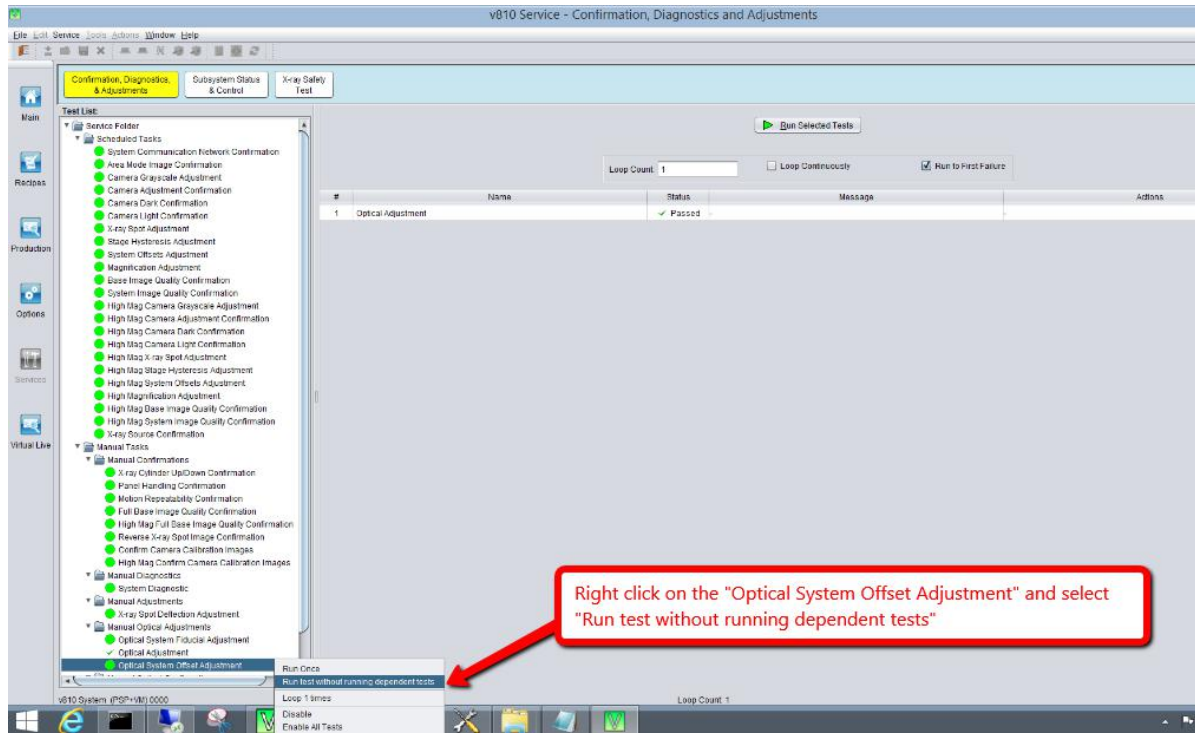

Figure 28 Optical System Offset Adjustment
20. At **Confirmation, Diagnostics and Adjustment (CD&A)**, under the **Manual Optical Adjustments**, right click **Optical System Offset Adjustment** and select **Run test without dependent tests** as shown in the Figure 28.